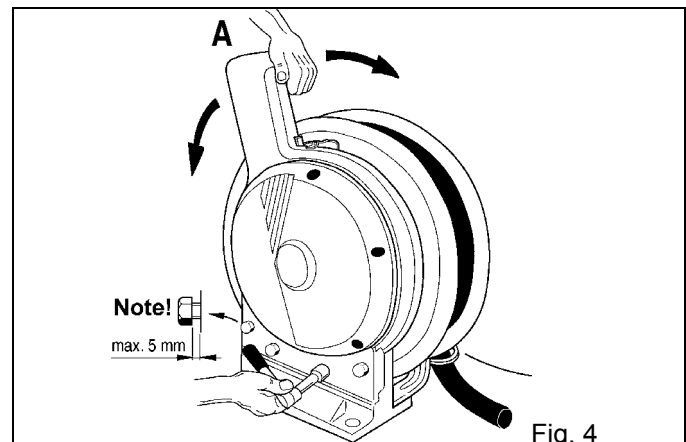

Fig. 4
(Fig. 4) The guide arm may be rotated and locked into multiple positions.
1. Remove four bolts connecting base to spring assembly (fig. 4).